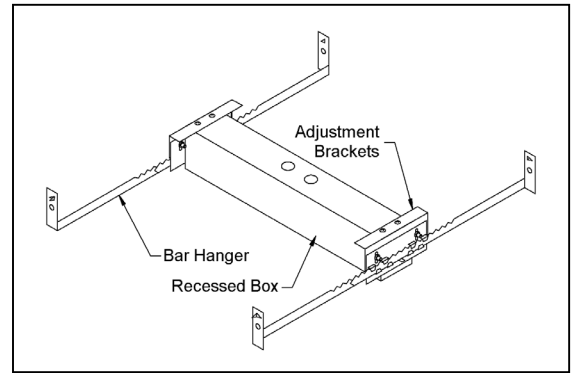

FIGURE 1
3. Mount recessed box with adjustment brackets supplied so that it is flush with the ceiling surface. Install bar hangers in adjustable slots. See Figure 1.